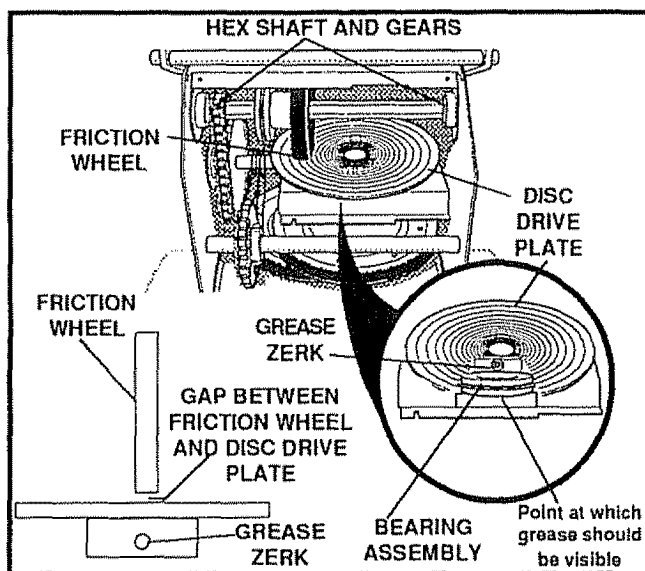

FIG. 18
- Disc Drive Plate - Using a hand grease gun, lubricate with a Hi Temp EP Moly grease, zerk located beneath the disc drive plate (See Fig. 18 inset) every 25 hours and at the end of the season and/or before storage. To grease zerk, turn disc drive plate clockwise by hand until zerk is clearly visible
- Hex Shaft and Gears - Hex shaft and gears require no lubrication. All bearings and bushings are lifetime lubricated and require no maintenance (See Fig. 18).
NOTE: For storage, the hex shaft and gears should be wiped with 5W-30 motor oil to prevent rusting (See Fig. 18).